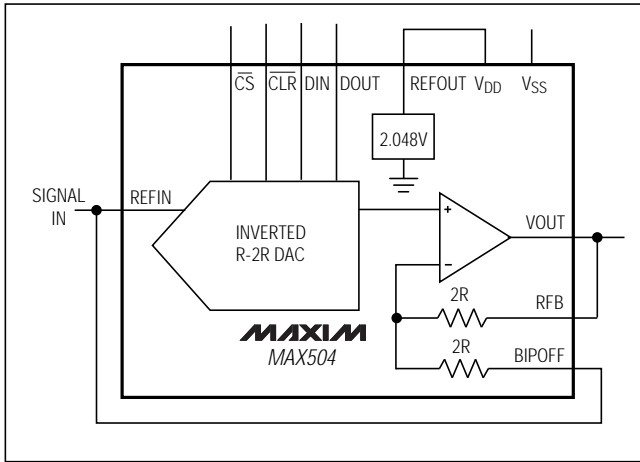

Figure 9. MAX504 Connected as Four-Quadrant Multiplier. The unused REFOUT is connected to VDD.
The MAX504 can be used as a four-quadrant multiplier by connecting BIPOFF to REFOUT and RFB to VOUT, and using (1) an offset binary digital code, (2) bipolar power supplies, and (3) a bipolar analog input at REFOUT within the range $V_{SS} + 2V$ to $V_{DD} - 2V$, as shown in Figure 9.